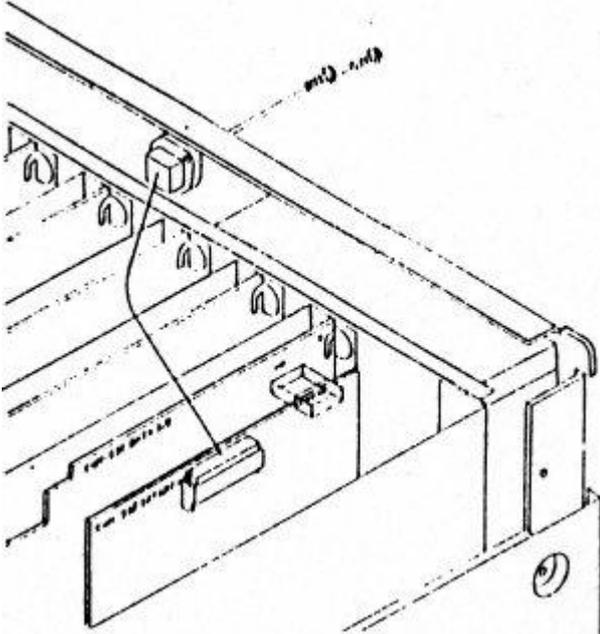

Fig. 2
(5) Connect the cable H-6ZCJD00141 as shown in Fig . 2.